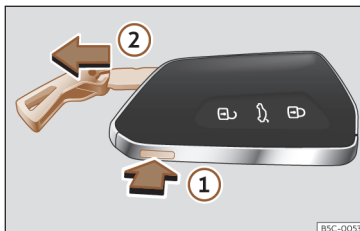

Fig. 82 Vehicle key: remove the key shaft.
- Press the >>> **Fig. 82** ① button to release the ring from the key fob and remove the key blade ②. Pressing lightly on the ring leaves it fixed as a key fob.
- Press the >>> **Fig. 82** ① button to unlock. Press and hold button ① and at the same time pull on the ring in the direction of arrow >>> **Fig. 82** ② to completely remove the key shaft.